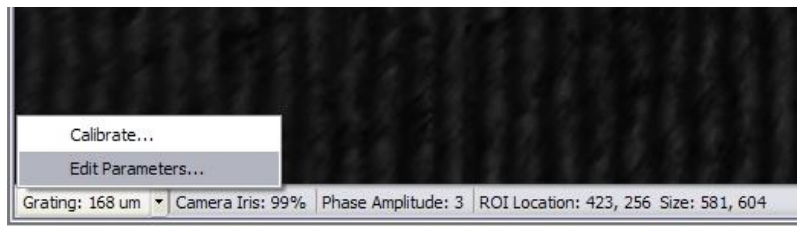

Figure 3.13 Edit Grating Parameters
10. After calibration, the **Fringe Value** is added for the new grating or updated for the existing grating. This can be verified by clicking the small arrow to the right of the Grating information area on the information bar and selecting **Edit Parameters...** (see **Figure 3.13**). The **Reference Plane** is also stored in memory and on the hard drive.